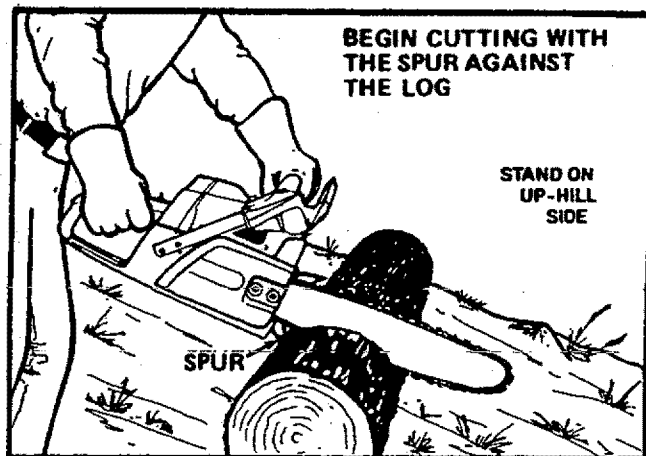

Figure 16
- Begin cutting the with spur against the log.** Figure 16.
- Plan to stand on the up-hill side when cutting on a slope.** Figure 16.
Stay on the uphill side of the tree to avoid the tree rolling or sliding downhill into you. Figure 16.